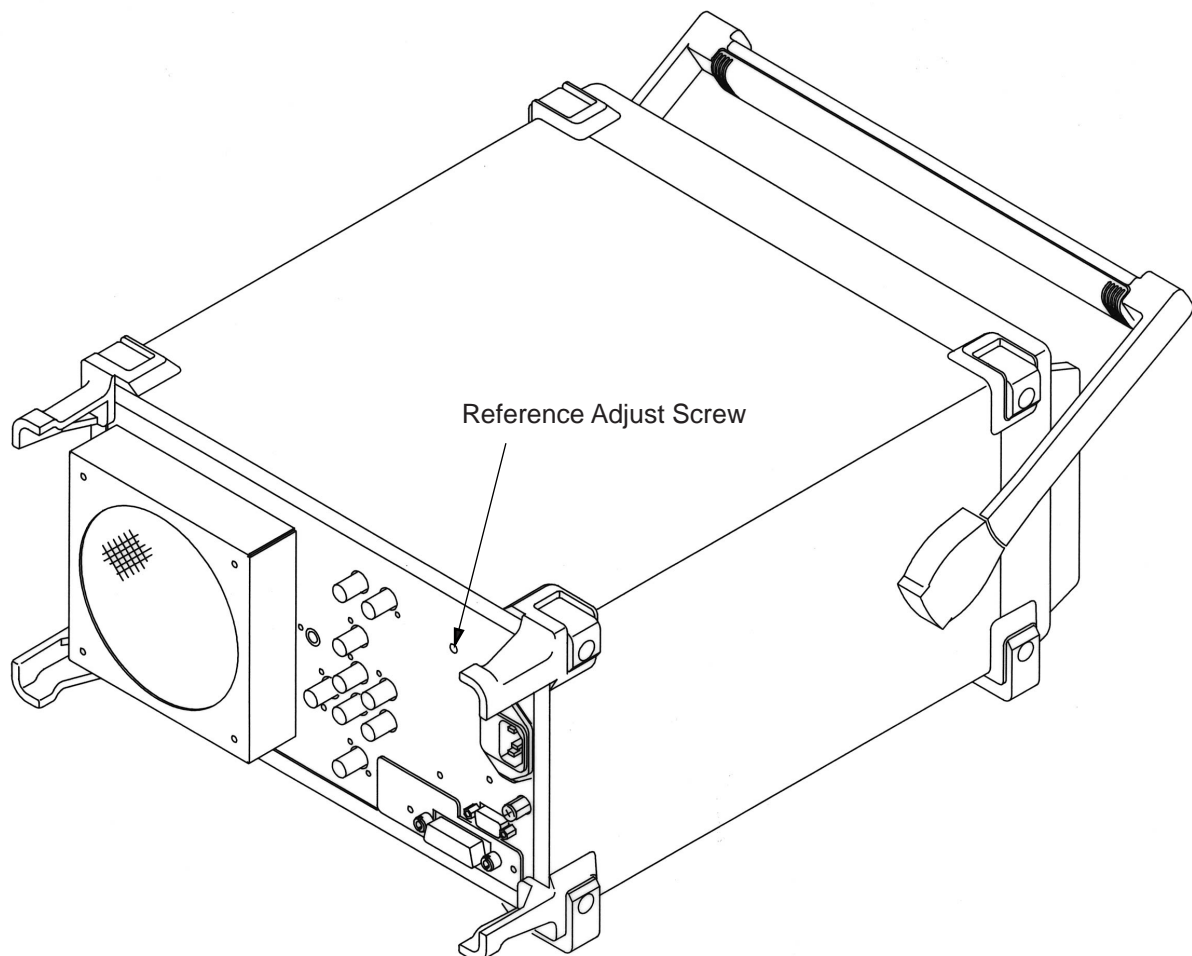

Fig. 2-2-2 The location of an adjuster of Reference crystal oscillator
- (2) Set the MF76A to resolution 1 Hz.
- (3) Adjust the “Reference Adjust Screw (Multi-turn potentiometer)” visible through the hole provided on the rear panel (refer to Fig. 2-2-2) to make the MF76A reading  $1,000,000,000 \text{ Hz} \pm 5 \text{ Hz}$ .